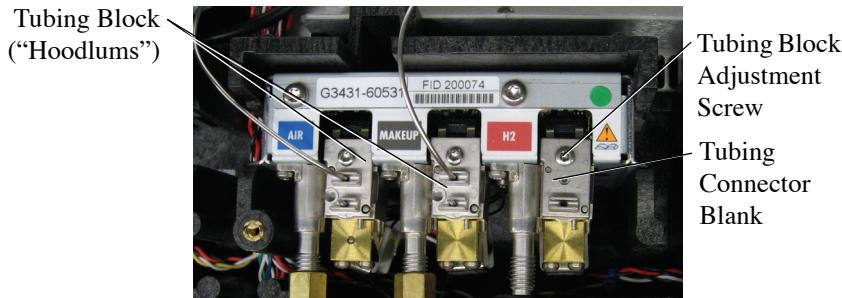

Figure 3.9. Tubing Connector Blanks
3. Remove the appropriate tubing connector blank (refer to Figures 3.9, 3.9, and 3.10) from the EPC module to expose the O-ring.